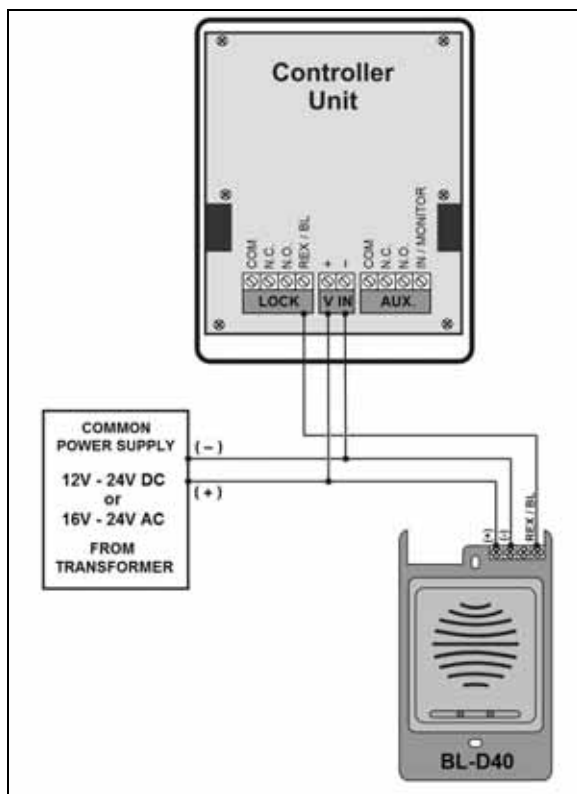

Figure 9: Terminal Block Wiring of the BL-D40 External Sounder
- Wiring for the BL-D40 External Sounder (Figure 9)